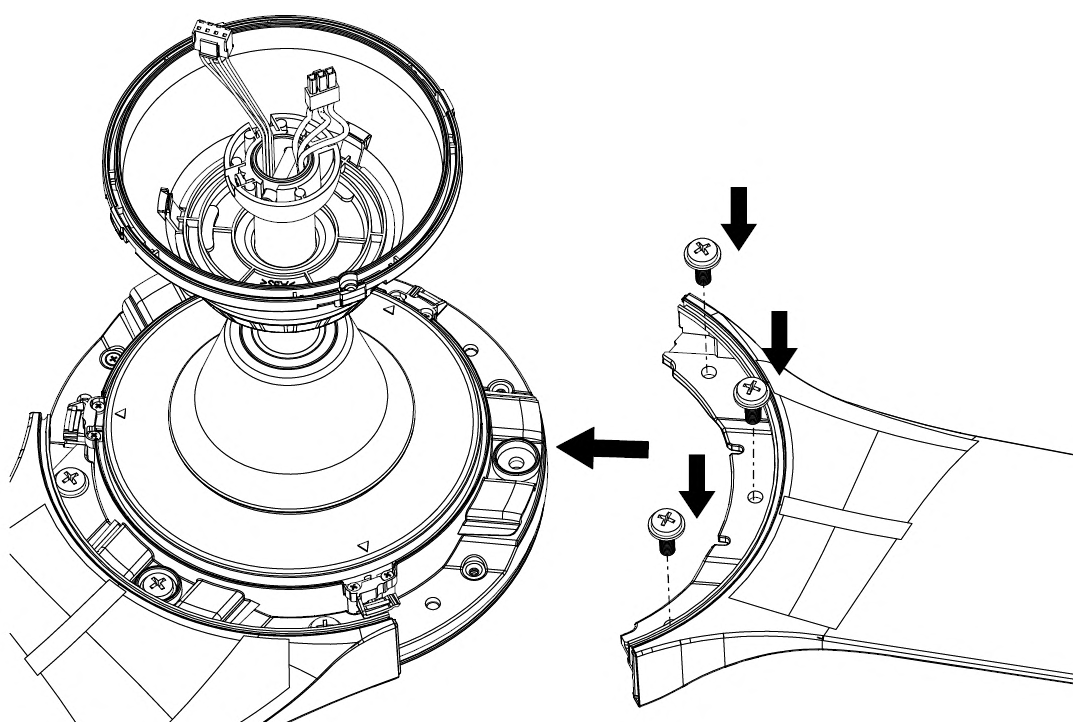

Fig. 4.2
2. Install the fan blades onto the motor assembly by using the three fan blade screws provided. (Fig. 4.2)